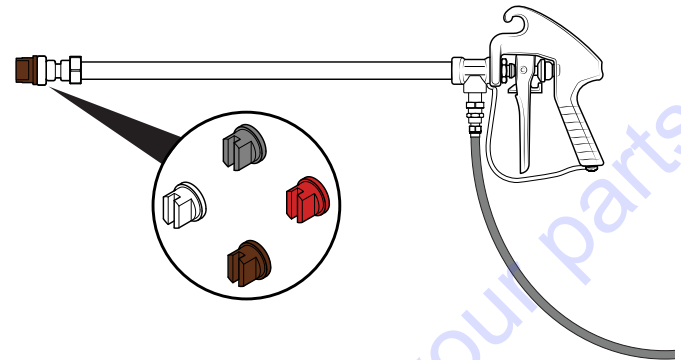

Figure 31. Spray Tip Installation
2. Make sure the appropriate spray tip for the desired application is installed onto the spray gun (Figure 31). Always refer to the chemical manufacturer's recommendations when selecting a spray tip. Refer to Table 8 for spray tip selection information.